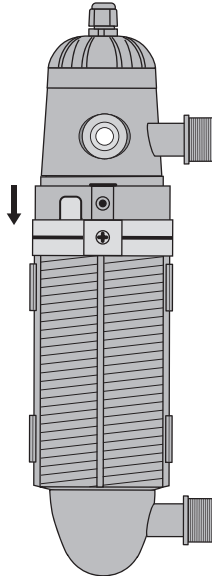

FIGURE 2
2. Carefully twist the quartz housing and the main body opposite of each other. (FIGURE 2)
4. Slide the quartz sleeve out of the main body. (FIGURE 2)